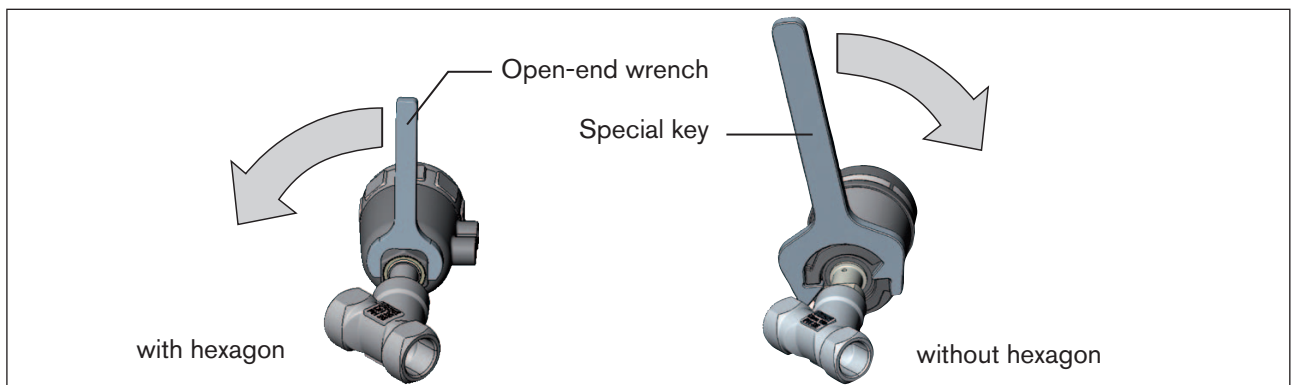

Figure 25: Rotating with special key / open-end wrench
- Rotate the actuator module in the specified direction only (see "Figure 25") !